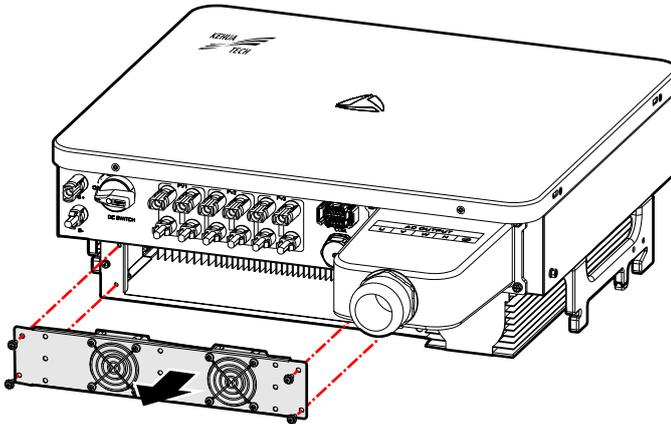

Figure6-1 Dismantle the cover plate
- Step 5 Dismantle the cover plate, as shown in Figure6-1.